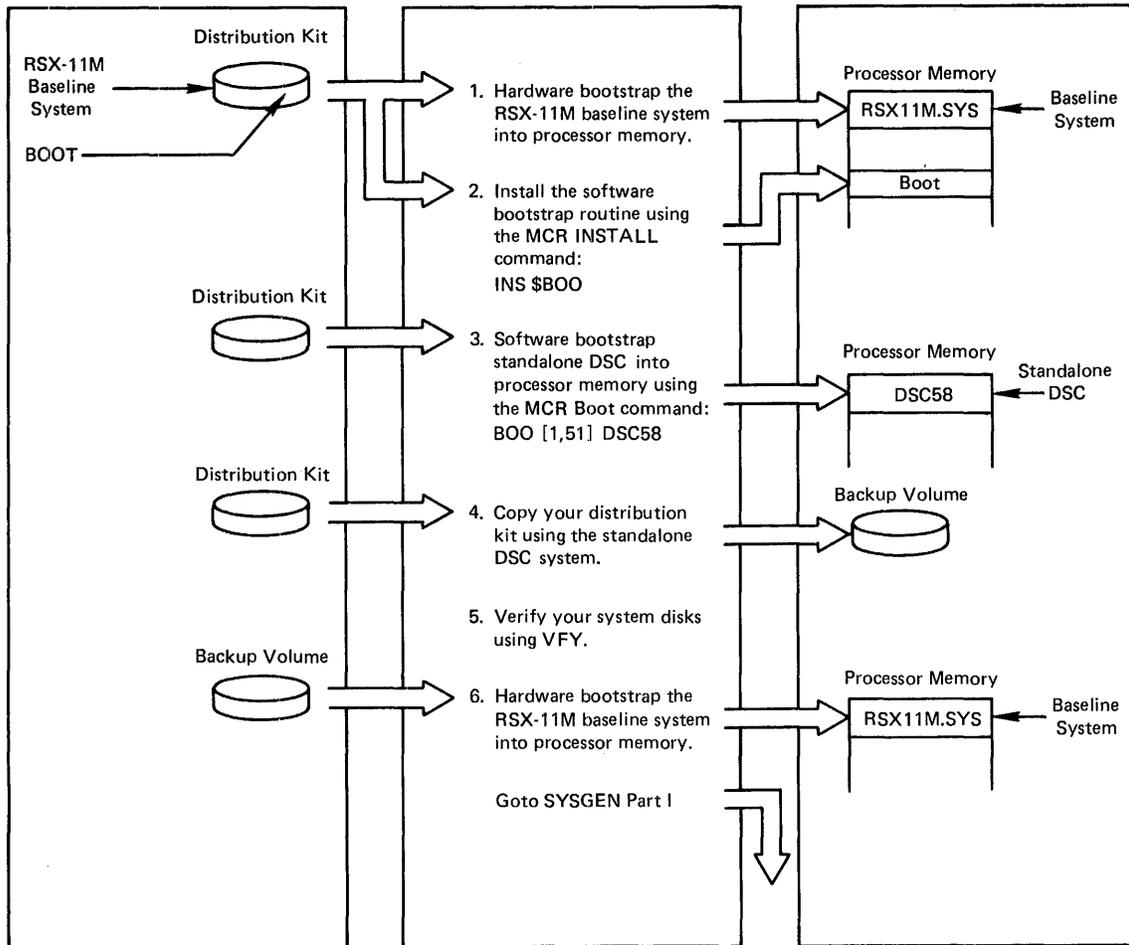

Figure 2-2 Copying Disk Distribution Kits
You can back up disk distribution media to either disk or tape backup volumes. Figure 2-2 outlines the procedure for creating a backup copy of disk distribution media.
**Step 1** in Figure 2-2 is to hardware bootstrap the RSX-11M baseline system into processor memory to control the system resources while SYSGEN is executing.
**Step 2** in Figure 2-2 is to install the MCR BOOT command (the software bootstrap routine) into memory. Using the BOOT command, you can bootstrap the standalone version of DSC into processor memory. You then use DSC to copy the kit. To install BOOT, enter the command line:
**Step 3** in Figure 2-2 is bootstrapping the standalone version of the Disk Save and Compress Utility (DSC) into processor memory. DSC provides the functions required to back up and restore data on the RSX-11M distribution media. (For a complete description of DSC functions, refer to the RSX-11 Utilities Manual.)
**Step 4** in Figure 2-2 is copying the disk distribution media to disk using DSC. The following is the general format for entering DSC command lines to copy from disk to disk:
**Step 5** in Figure 2-2 is to verify the integrity of the disks you are using for system generation. Use the File Structure Verification Utility (VFY) to ensure the integrity of these disks. (The RSX-11 Utilities Manual provides details of all the functions performed by VFY.)
Step 6 in Figure 2-2 is to hardware bootstrap the RSX-11M baseline system into processor memory to control the system resources while SYSGEN is executing.